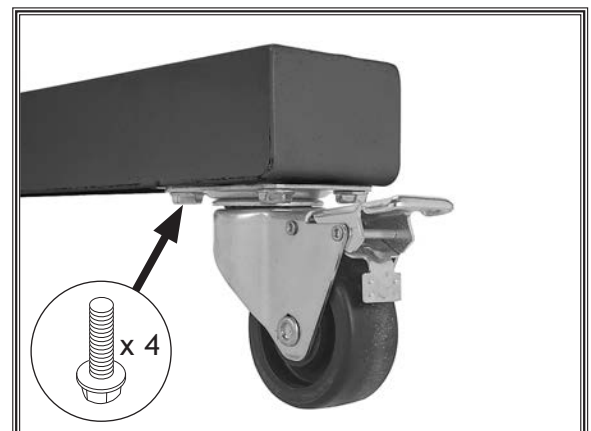

Figure 9. Locking swivel caster (1 of 4) attached to base.
1. Attach (4) 2 1/2" locking swivel casters to bottom of base, and secure each caster with (4) 5/16"-18 x 1 1/2" flange bolts (see **Figure 9**).